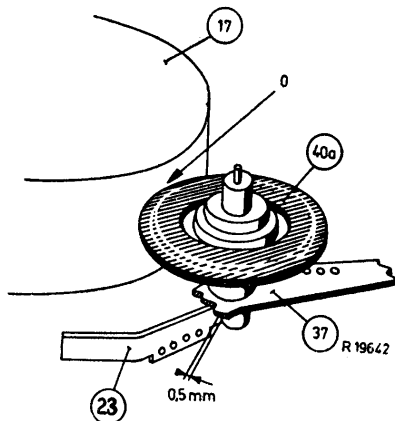

FIG. 5
- (a) Stop bracket adjustment. If the "play" button is depressed to the point where the rubber clutch wheel is just touching the flywheel, there should be a gap of 0.5 mm. between the stop bracket 23 and insert hub on coupling bracket 37. This can be adjusted, if necessary, by bending stop bracket 23 (see Fig. 5).